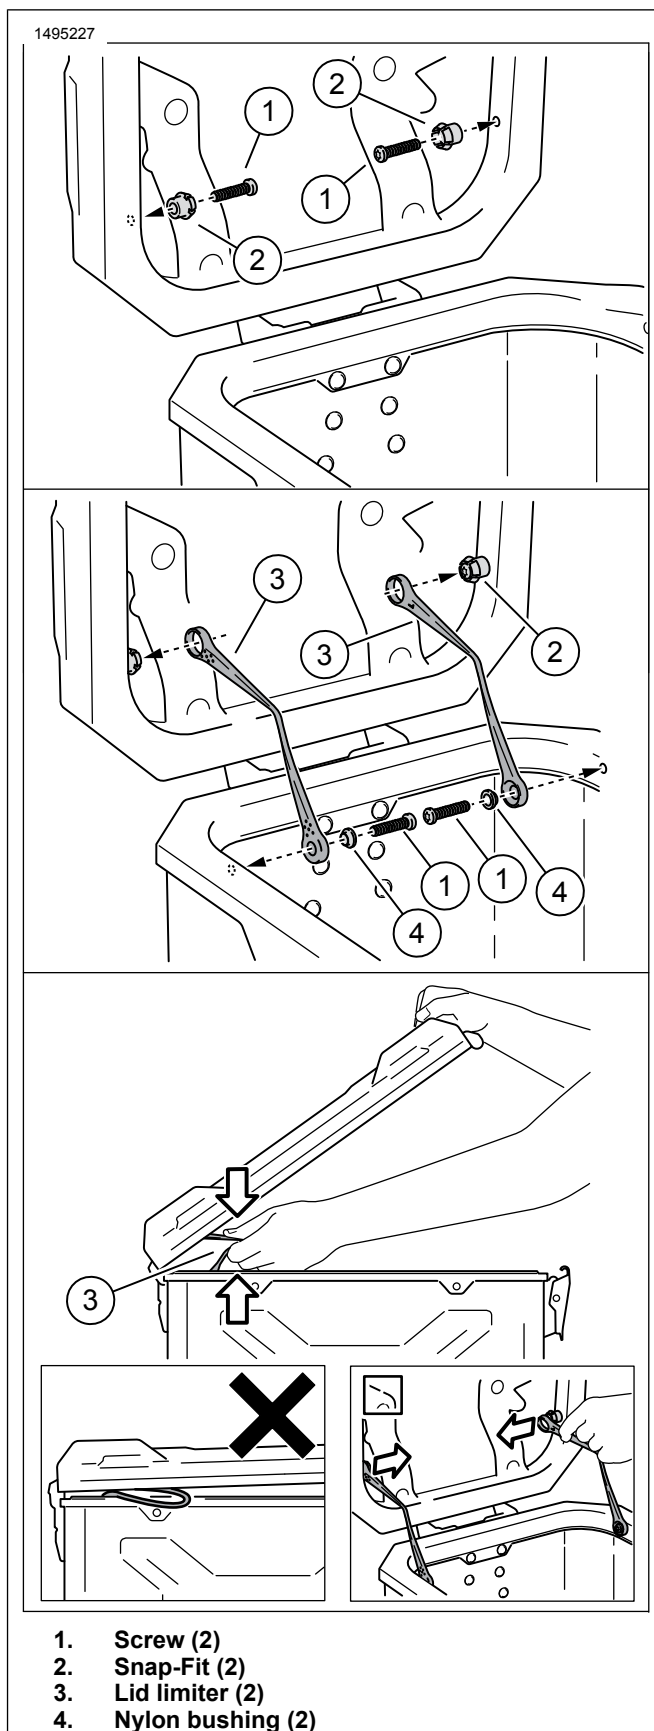

Figure 4. Lid Limiter Mounting
1. See Figure 4. Open lid. Attach snap-fit (2) at lid frame. Tighten screws (1), hand tighten, fully seated.
See Figure 4. If lid limiters have been installed, they must be detached before removing lid.